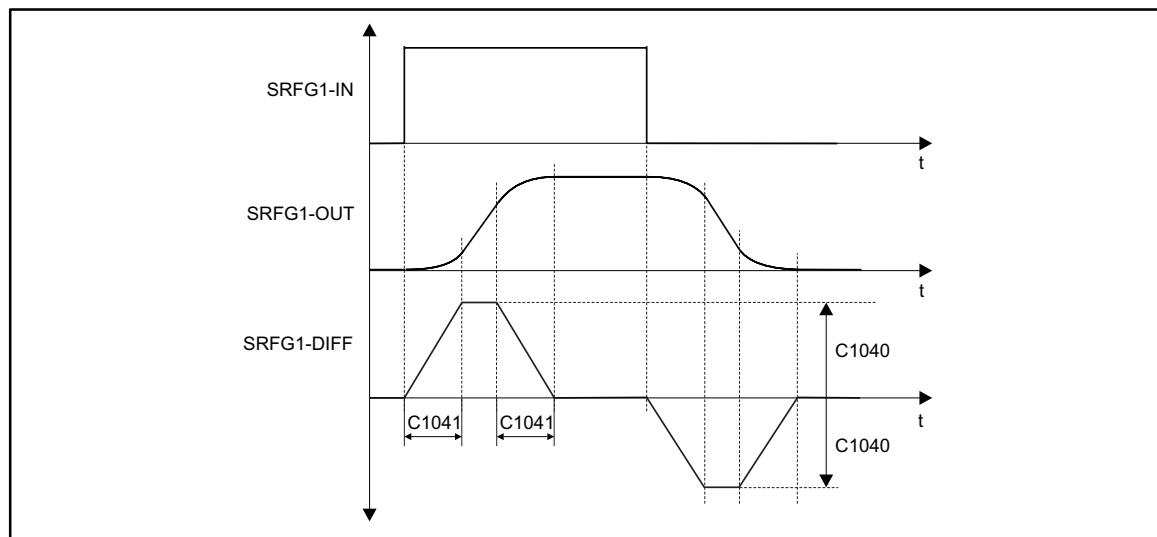

Fig. 7-151
- The acceleration characteristic (signal at SRFG1-DIFF) in Fig. 7-151 shows the linear rising or falling of the signal during the rounding time (C1041).